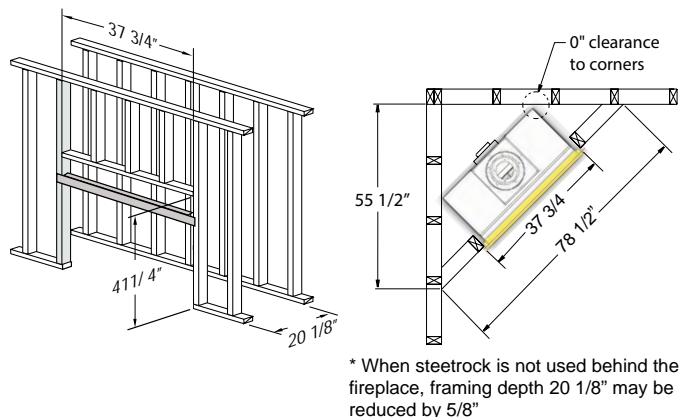

Figure 2. Framing dimensions, (Straight wall & Corner Installation).
1). Frame in the enclosure for the unit with framing materials. The framed opening for the assembled fireplace is 37 3/4" wide, x 41 1/4" high x 20 1/8" deep, see Figure 2.